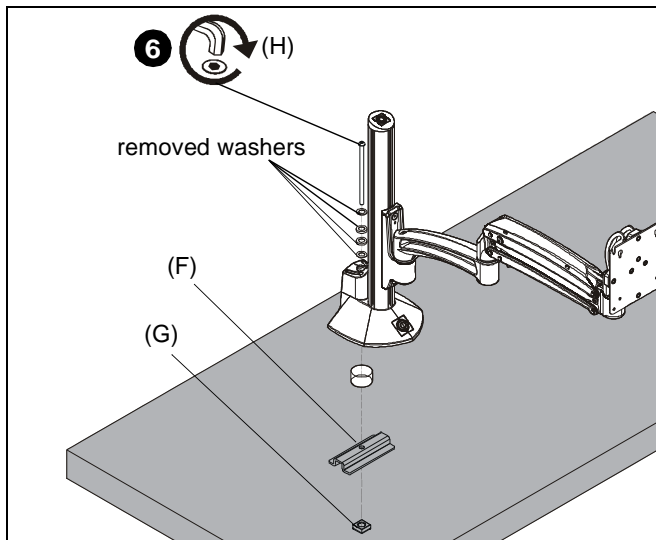

Figure 6
5. Place mount on desk over grommet hole. (See Figure 6)
6. Use 5/16-18 x 6" button head cap screw (H), removed washers, clamp bracket (F) and 5/16-18" square nut (G) to secure mount to desk. (See Figure 6)